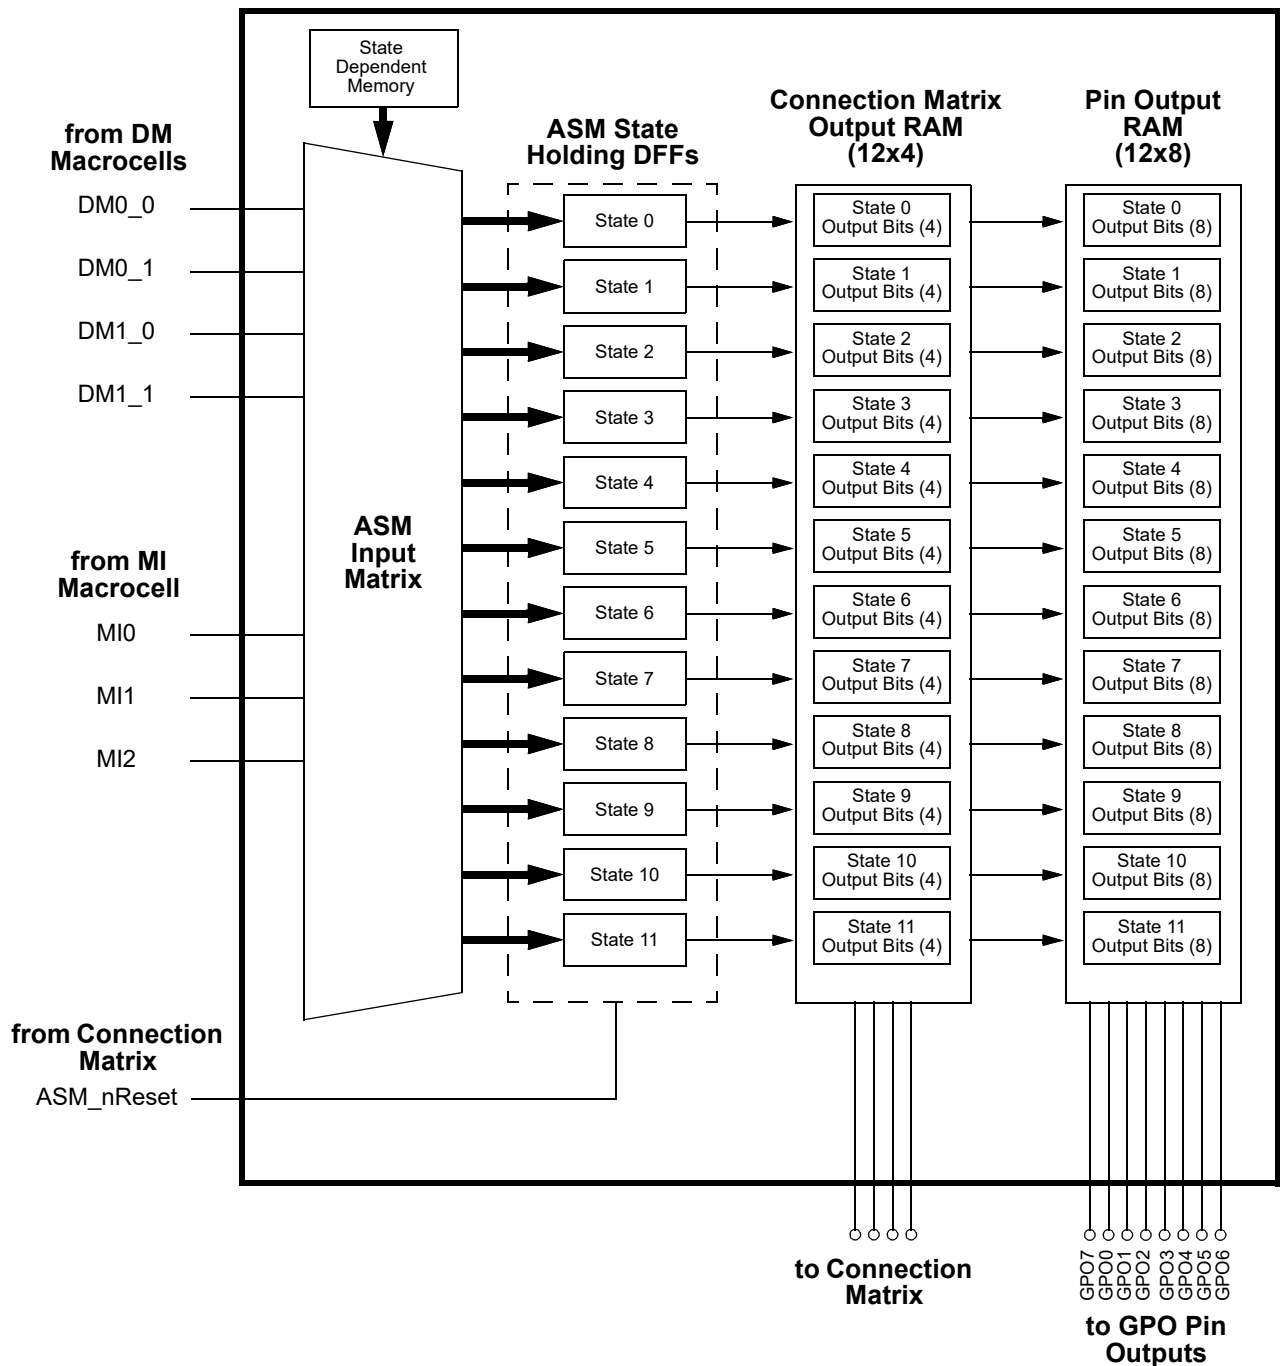

Figure 116: 12 State ASM Macrocell
The ASM macrocell has a total of 8 input signal lines, as shown in Figure 116, which come from a combination of three Matrix Interface (MI) macrocell outputs and DM macrocell outputs. Of these 8 inputs, 3 are user selectable inputs coming from the three Matrix Interface (MI) macrocells (one per macrocell) to the ASM macrocell. There are also 4 inputs that come from the DMx_x macrocells (one per macrocell). There is 1 ASM_nReset input that is for driving a state transition in the ASM macrocell to a user defined Initial/Reset state.
The GPAK Designer development tools support user designs for the ASM macrocell at both the physical level and logic level. Figure 116 is a representation of the user design at the logical level, and Figure 116 shows the physical resources inside the various macrocells in the ASM Subsystem. To best utilize this subsystem, the user must develop a logical representation of their desired state machine, as well as a physical mapping of the input and outputs required for the desired functionality.
The ASM macrocell has a total of 8 input signal lines, as shown in Figure 116, which come from a combination of Connection Matrix outputs and DM macrocell outputs.